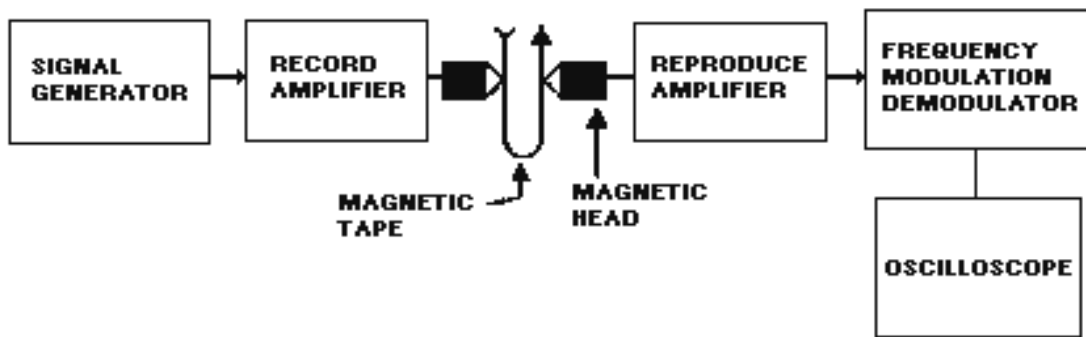

Figure 6-8.—Test equipment setup for measuring flutter.
There are many ways to measure flutter. Most are based on the fact that tape speed variations cause frequency modulation of a recorded tone. Figure 6-8 shows a typical setup for measuring the peak-to-peak value of flutter with a frequency-modulation (FM) demodulator and an oscilloscope. The technical manual for the magnetic tape recorder you're testing will tell you how to set up the signal generator to output the test signal. After setting up the test equipment, follow these procedures: